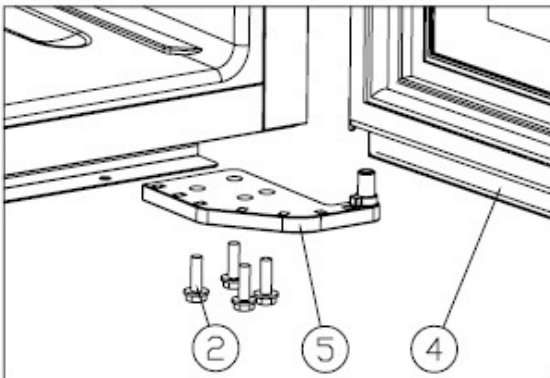

Figure 2
- ✧ Unscrew the M5*16screws (2), dismantle the right lower hinge (5). [Figure 2]